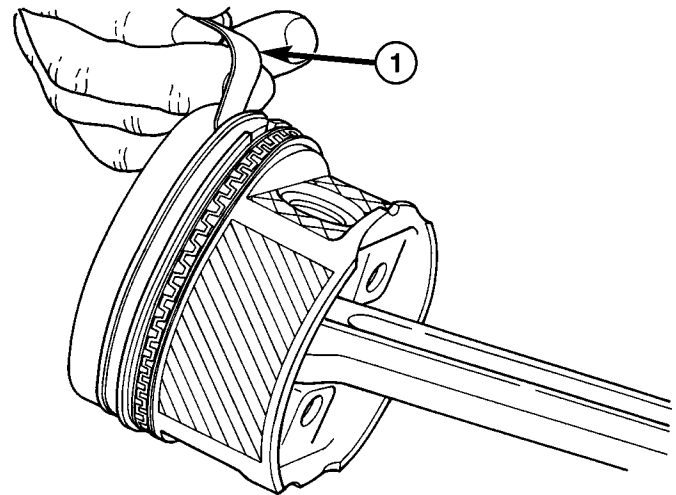

Fig. 80 Piston Ring Side Clearance
(2) Check piston ring to groove side clearance (Fig. 80). For piston ring specifications (Refer to 9 - ENGINE - SPECIFICATIONS).